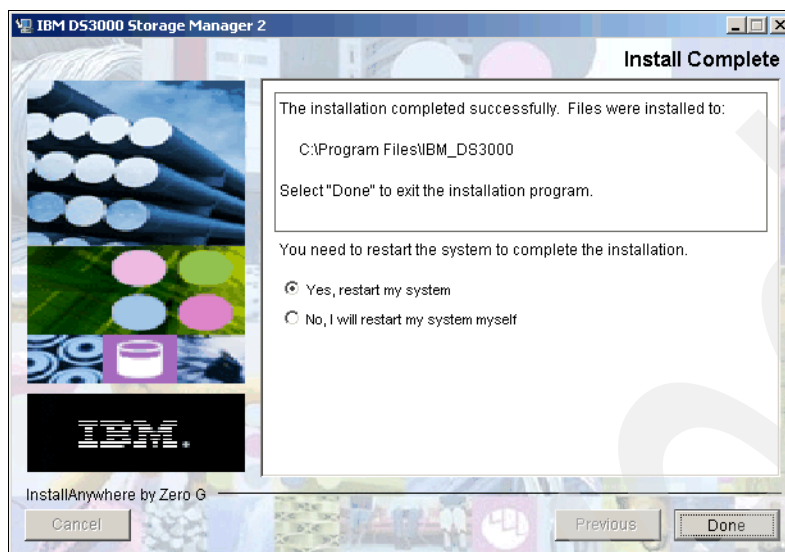

Figure 23-14 Storage manager install complete
13. After the installation is completed, you will be prompted to reboot, as shown in Figure 23-14. Click **Done**. The server will reboot to activate all installed drivers.